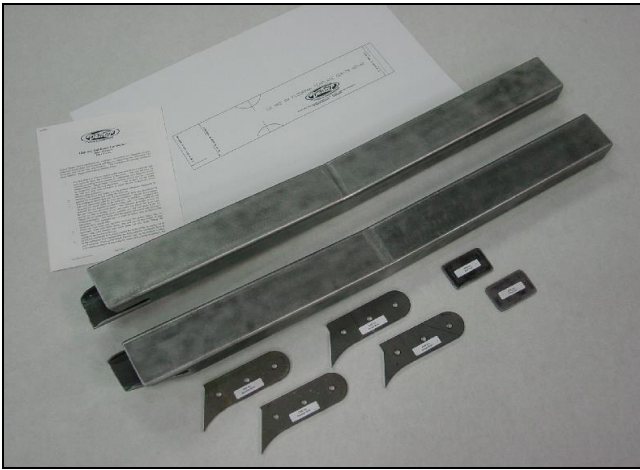

Figure 3
7. The subframe connectors are not symmetrical; they are labeled driver side and passenger side for your convenience. (Figure 3 on the next page)